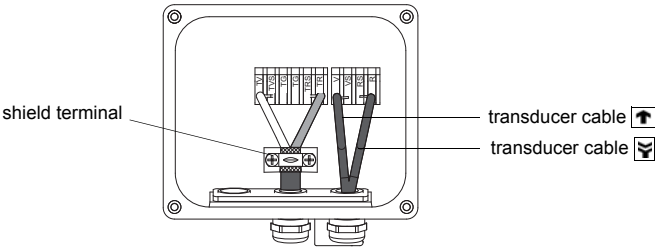

Fig. 5.12: Terminals for the connection of the extension cable and the transducer cable (ATEX zone 1)
- Pull the extension cable back until the brushed back external shield is below the shield terminal of the junction box (see Fig. 5.12).
- Fix the extension cable and the external shield to the shield terminal of the junction box (see Fig. 5.12).
- Connect the leads to the terminals of the junction box (see Fig. 5.12 and Table 5.8).
- Connect the leads to the terminals of the junction box (see Fig. 5.12 and Table 5.9).